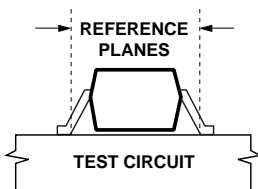

Figure 9. Reference Planes.
3. Reference plane per Figure 9 in Applications Information section
The positions of the reference planes used to measure S-Parameters are shown in Figure 9. As seen in the illustration, the reference planes are located at the point where the package leads contact the test circuit.